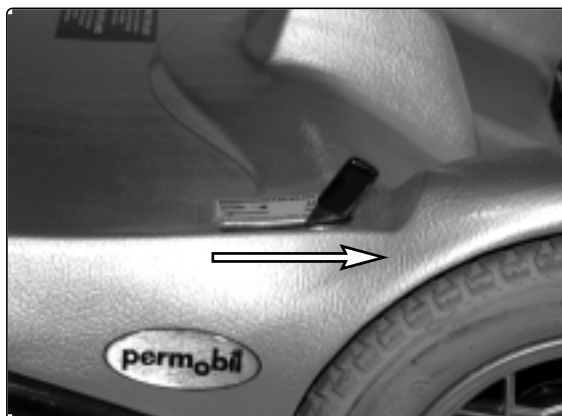

Fig. 24. Releasing the brakes
2. Move the lever, Fig. 24, forward. The chair can now be moved manually.